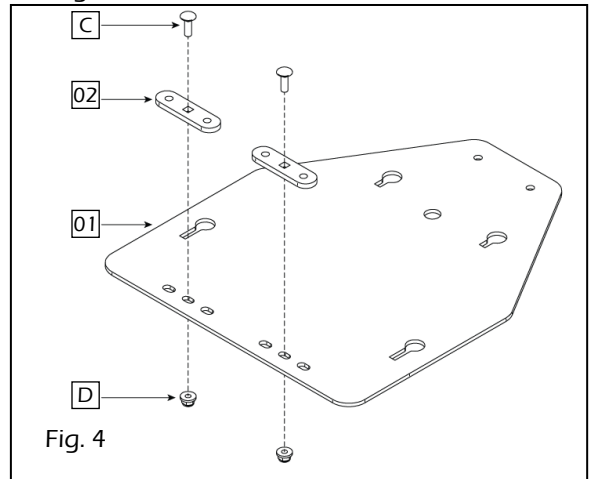

Fig. 4
- 5) Pre-assemble the two (2) spacers **02** with two (2) M8-1.25 x 25 mm carriage bolts **C** and two (2) M8-1.25 hex. nuts **D**. Tighten the first threads only. See Figure 4.